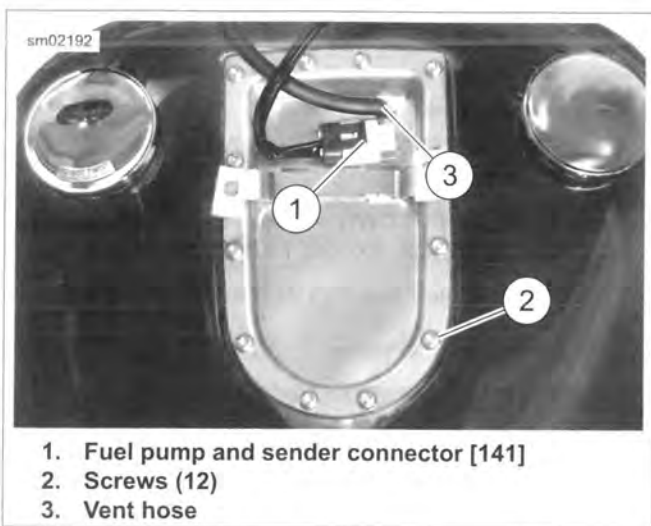
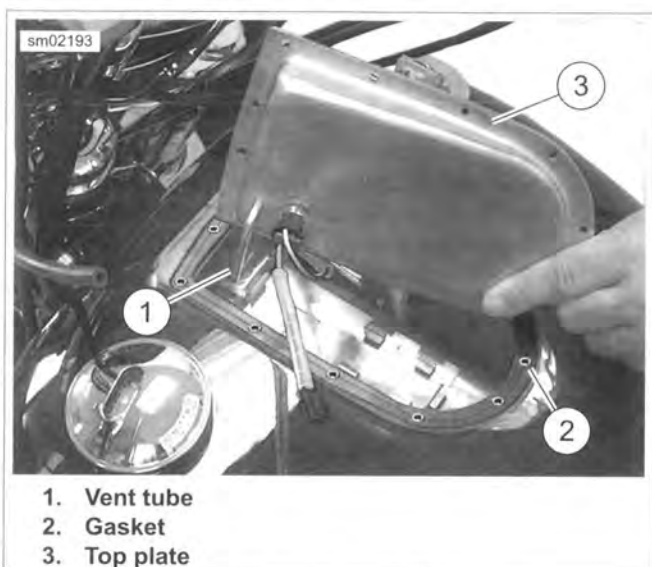

Figure 4-33. Top Plate Screws (Typical)
Figure 4-34. Top Plate
6. See Figure 4-33. Disconnect fuel pump and sender connector [141] (1).
7. Remove vent hose (3).
8. Remove screws (2) and discard.
9. See Figure 4-34. On all models, rotate top plate (3) until vent tube (1) clears fuel tank.